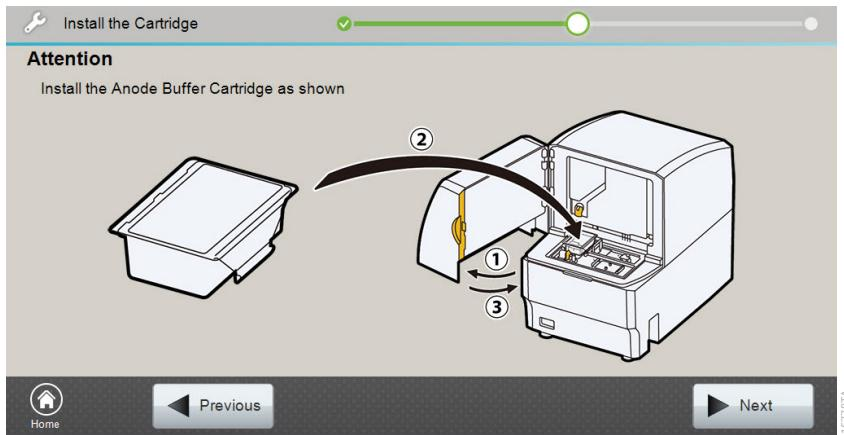

Figure 18. 'Install the Anode Buffer Cartridge' screen.
6. When the 'Install the Anode Buffer Cartridge' screen appears (Figure 18), open the front door of the instrument.